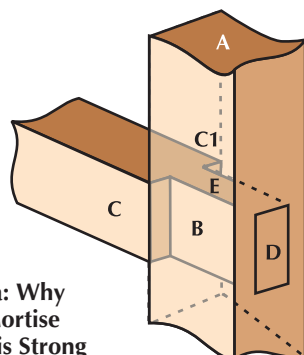

Fig.1a: Why the Mortise Joint is Strong
The various parts of the joint can be seen in Fig.1a. The mortise is a hole cut all the way through the component marked A, which, for convenience, will be referred to here as the mortise rail. The tenon (B) is cut on the end of what will be called the tenon rail.